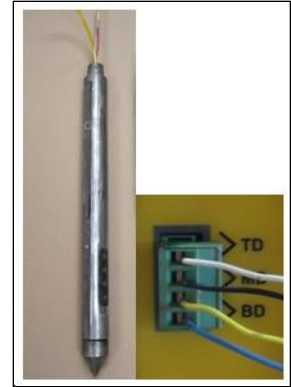

Figure 5.2: EC Wire Connections
3. Secure the EC wires into the Green terminal block connector and insert into the FI6000. The wires match to the EC dipoles in the following top down order when the probe tip is on the ground – white, black, yellow and blue (Fig 5.2).